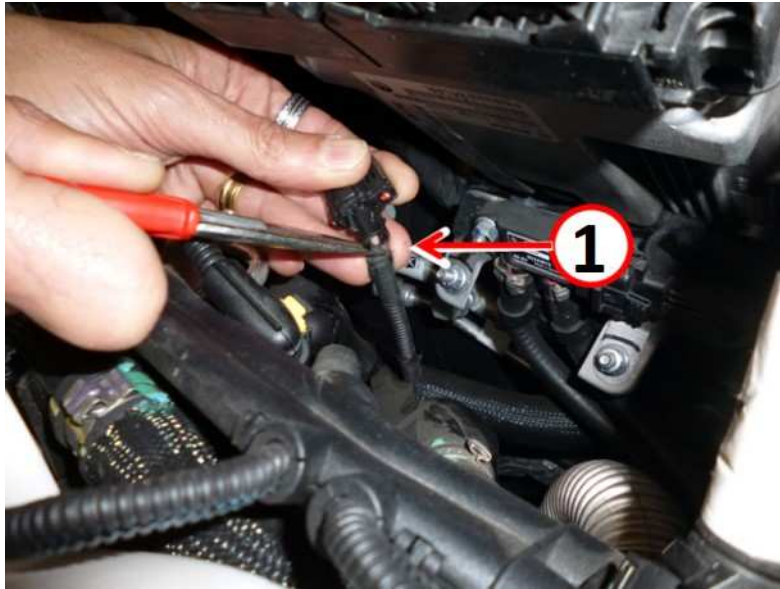

Fig. 3
2. Cut the wire at the connector base (Fig. 3) .